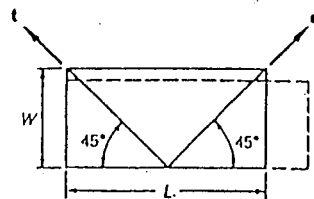

Fig. P2.37
2.37. A thin rectangular plate is deformed uniformly into another rectangle as shown in Fig. P2.37. It elongates 10 per cent of its original length and contracts 3 per cent of its original width. Compute approximately the shear strain γ_{xx} .